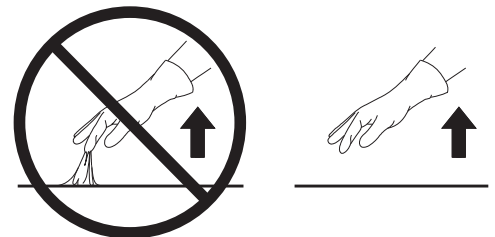

Figure 17
- a. Allow the P-50 to set. P-50 is set when it feels tacky but is no longer in liquid form and has a matte finish rather than a glossy wet appearance. P-50 dries quickly (to a set state) under most circumstances. Typical time for P-50 to set is two to three minutes under optimal conditions of 70°F (21°C) and medium to low humidity levels. For more information on P-50 application procedures see Information Folder 5.17. See Figure 17 on page 14.
- a. Allow the P-50 to set. P-50 is set when it feels tacky but is no longer in liquid form and has a matte finish rather than a glossy wet appearance. P-50 dries quickly (to a set state) under most circumstances. Typical time for P-50 to set is two to three minutes under optimal conditions of 70°F (21°C) and medium to low humidity levels. For more information on P-50 application procedures see Information Folder 5.17. (See Figure 17.)